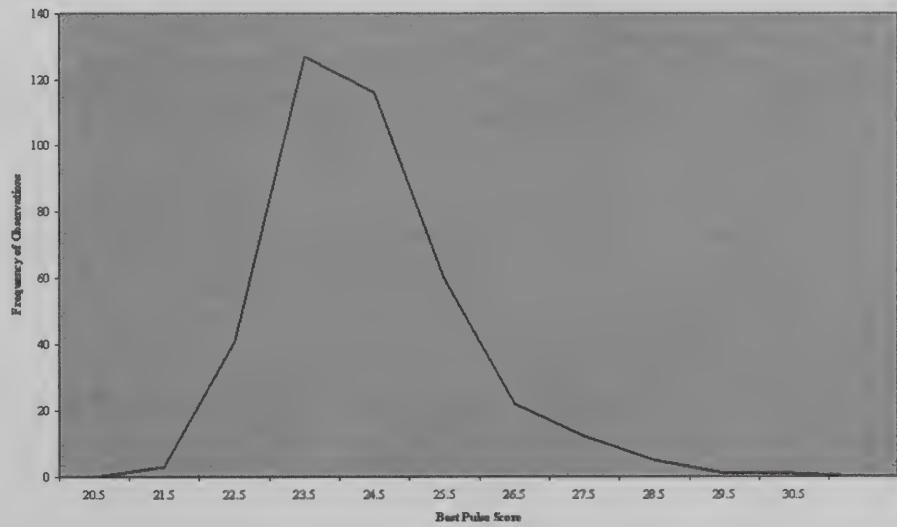

Figure 1. A Frequency Distribution of SETI@Home Best Spikes Analyzed by K5NRK.
- **Normality:** Since a picture speaks a thousand words, let's show the dispersion of data on a *frequency distribution* (graph) with *frequency* of observations on the y-axis and the range of values *distributed* on the x-axis (Figure 1). When you identify the mean (center) of this graph, you will observe that values will tend to *cluster* around the mean. Also your data will take a *normal* shape that represents a *bell curve* with half of the data lying on either side of the mean. Interestingly, most things occurring in nature (i.e. physical, biological, and social) are approximately *normally distributed around the mean*. (e.g. runs scored in baseball games or scores on Amateur Radio license examinations.) For example, the *average* wave height at Pensacola Beach, Florida, is about 2 feet and is normally distributed around the mean with a standard deviation of 0.25 feet. As a result, there are very few (calm) days you will see no waves at all, or for that matter very few days in which waves will be 6 feet or higher (hurricanes). Rather, wave heights tend to be closely distributed around the